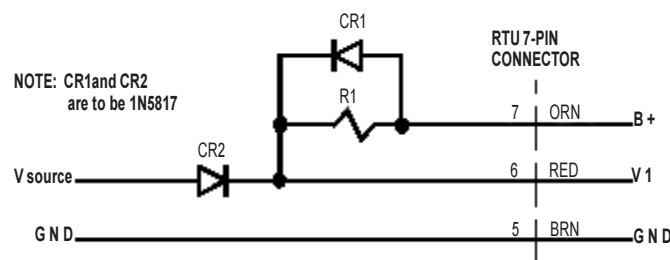

Figure A6 - Battery Connection Wiring Diagram
- 15.5.1 Connect the battery as shown in Figure A6: